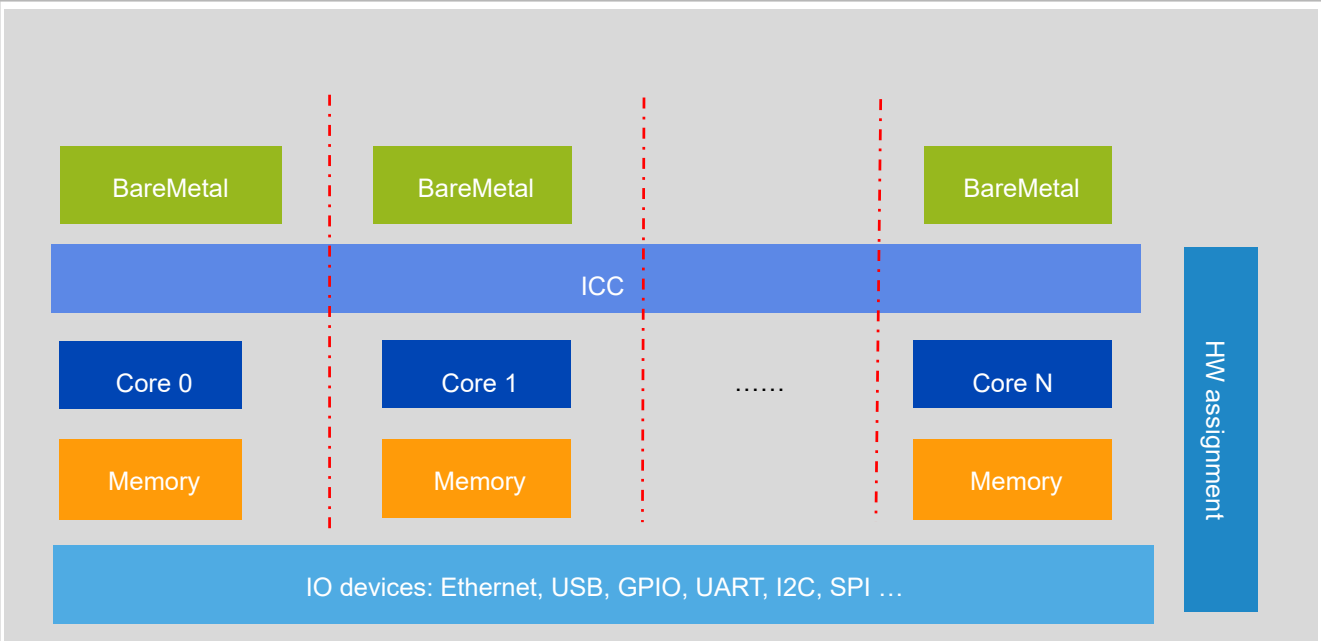

Figure 8. BareMetal Use Case 2
2. All cores run BareMetal application for real-time processing. Refer Figure 8.